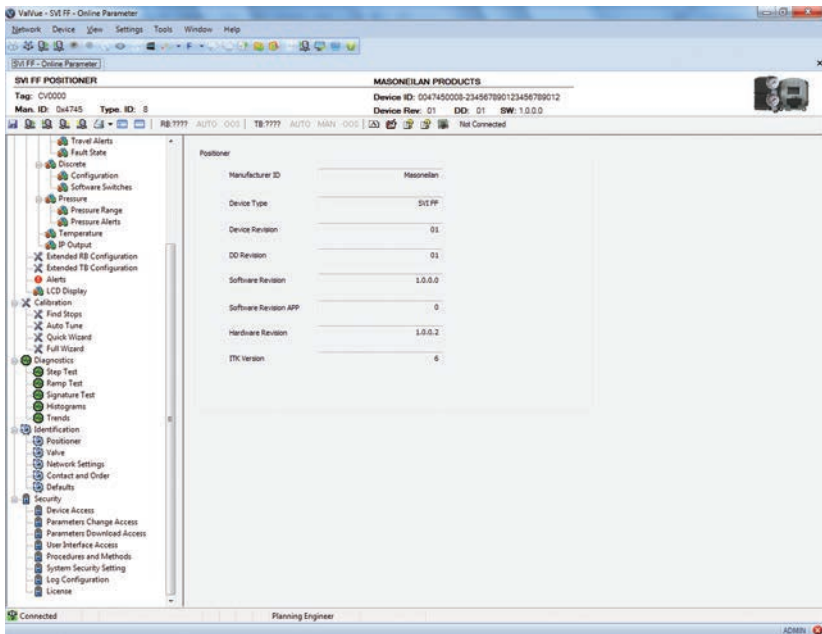

Figure 4 - Positioner Tab
- SVI FF DTM on the Positioner tab. The firmware revision is Software Revision (Figure 4). Where the first digit, *here 1*, represents the *DD Revision*.